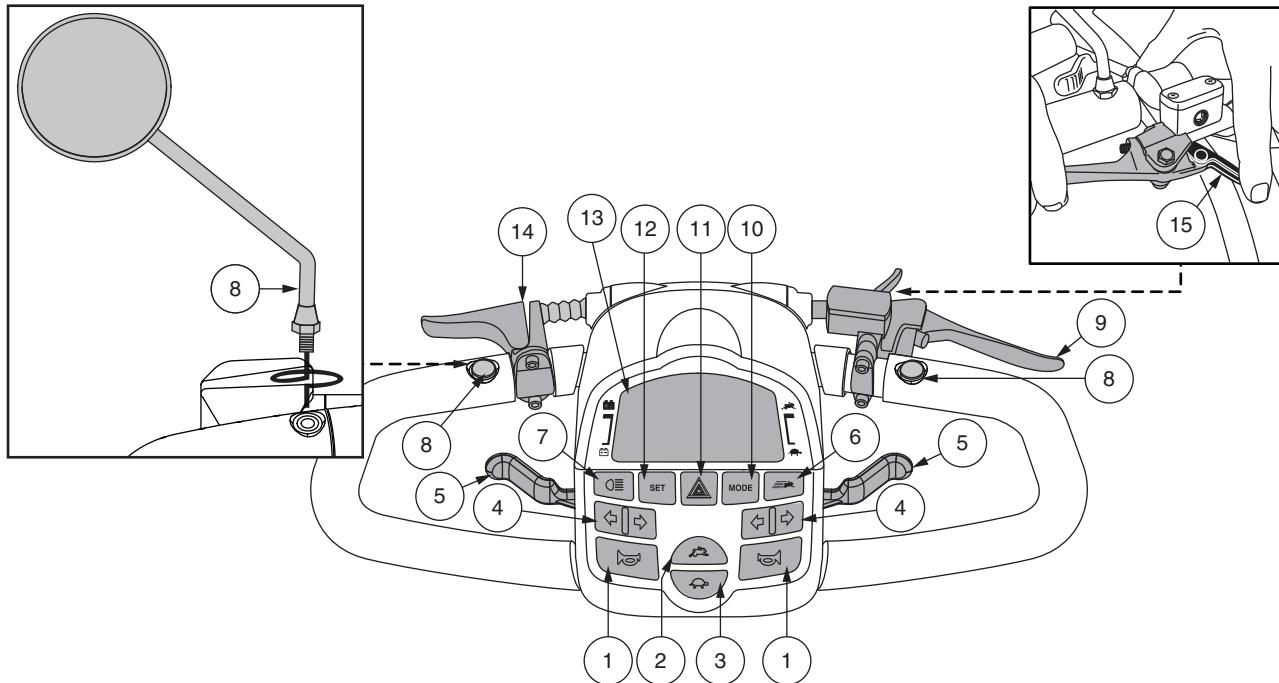

Figure 1. Tiller Console
The tiller console houses all of the controls needed to drive your vehicle, including the LCD control panel, handbrake lever, tiller adjustment lever, and the throttle control lever. See figure 1.
This lever allows you to control the forward speed and the reverse speed of your vehicle up to the maximum speed you preset with the speed adjustment. A throttle control lever is located on the underside of the left and right side of the tiller handle. See **figure 1**.
- Press the **High-Low** button once to set the speed adjustment to high. The High-Low indicator will display on the LCD screen. See **figure 1**. Using this setting in conjunction with the speed adjustment buttons will allow the vehicle to achieve speeds up to the maximum preprogrammed speed for the vehicle.
The LCD control panel offers easily intuited feedback information via the LCD screen. See **figure 1**. The LCD screen is also used during the set-up (activation) of the various control panel settings.